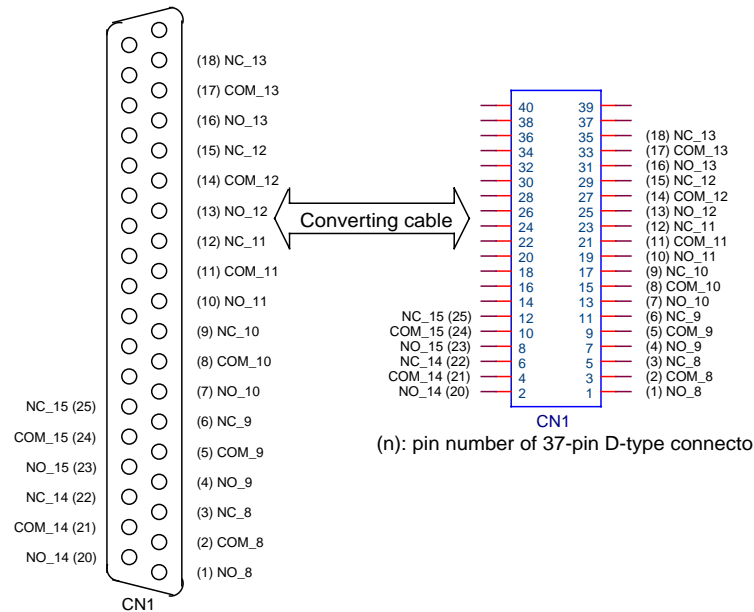

Figure 2-2 Pin Assignment of EX-94288 connector CN1
- ♦ The CN1 pin assignment is as shown in Figure 2-2